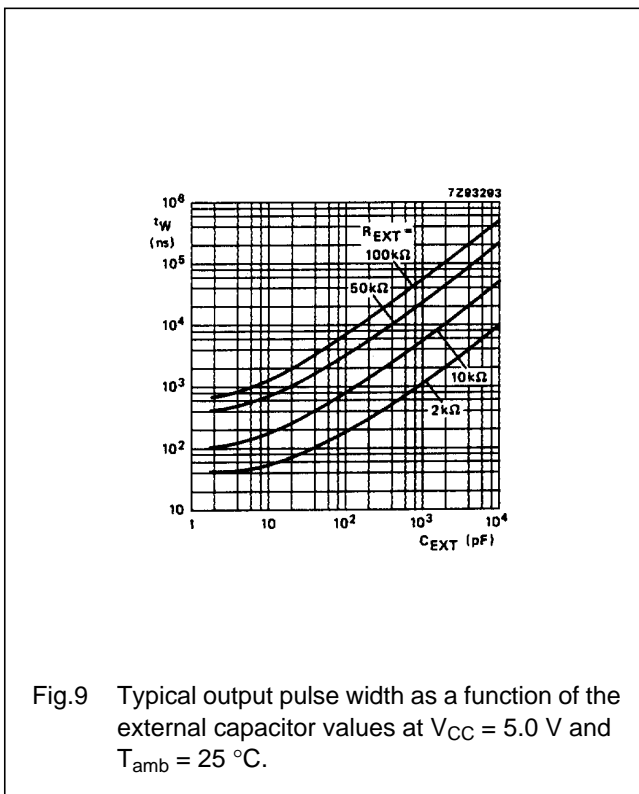

Fig.9 Typical output pulse width as a function of the external capacitor values at  $V_{CC} = 5.0 \text{ V}$  and  $T_{amb} = 25 \text{ }^\circ\text{C}$ .
- For other  $R_{EXT}$  and  $C_{EXT}$  combinations see Fig.9.